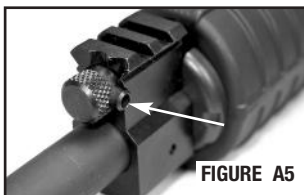

FIGURE A5
- When the spring loaded plunger is in the 3 o'clock position it is in Single Shot Mode (FIGURE A5). The Single Shot Mode position eliminates the passage of gas through the gas plug. Accordingly, when firing in this mode, the operating rod will not get pushed back and the bolt will not cycle after a cartridge is fired. The operator will have to manually cycle the bolt to extract the cartridge casing and chamber another round.